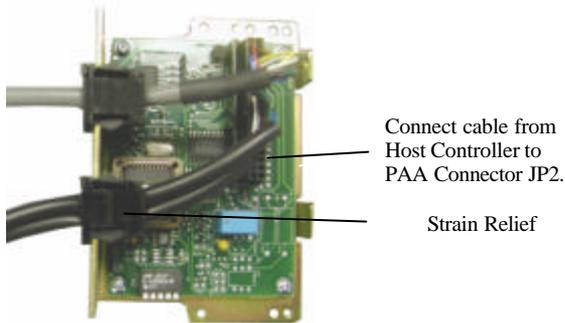

Figure 17. PAA – Installation of 24-Pin Interface Cable
7. Connect 24-pin interface cable (removed in **Step 2**) from Host machine to JP2 in PAA (**Figure 17**); for JP2 pin-signal assignments, refer to **Table 3**.
8. Adjust cable length to allow strain relief to be fully seated in slot of PAA (**Figure 17**).